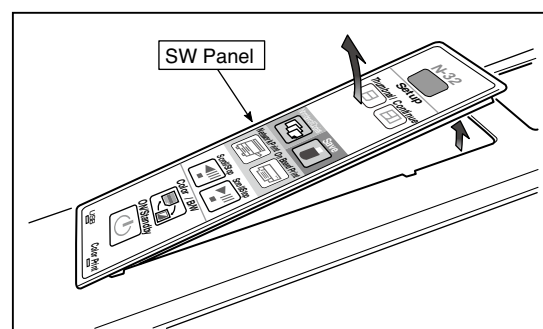

Fig.16
- Disconnect the CIS Cable (FFC), shown in the figure 16, from a connector.